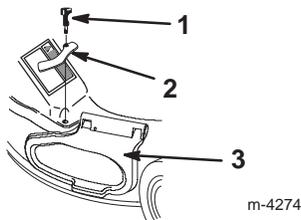

Figure 37
4. Remove the bolt and side cover clamp, then replace the bolt in the hole and save the clamp for future use (Fig. 37).
5. Lift up on the side opening cover (Fig. 37).
6. Install the side cover clamp and the knob, securing the side opening cover (Figs. 37 and 39).